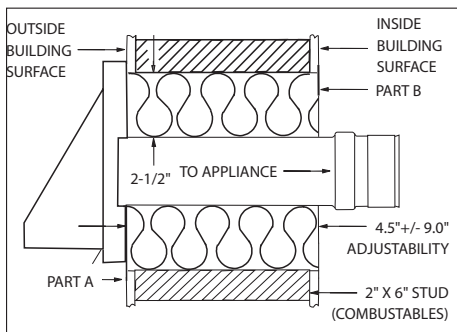

Figure 19
2. Determine the location and cut an opening for the wall thimble (refer to **Figure 19**).